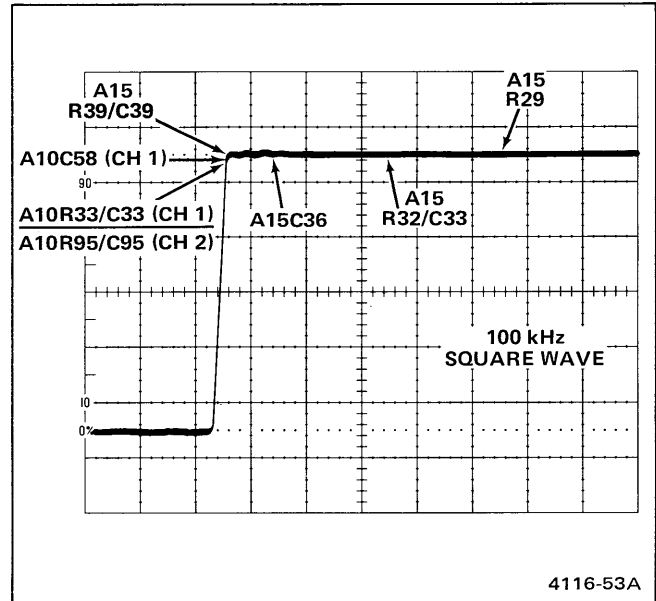

Figure 5-1. Areas affected by high-frequency compensation adjustments.
d. CHECK—Flat-top display aberrations are within  $\pm 3\%$  (0.15 division or less). See Figure 5-1 for a typical display.
e. ADJUST—Vertical Output Amplifier HF Compensation (R29, R32, and C33) for the best flat-top display (see Figure 5-1).
g. ADJUST—Vertical Output Amplifier HF Compensation (C36) for the best flat-top display (see Figure 5-1).
i. ADJUST—CH 2 Preamp HF Compensation (R95 and C95) and Vertical Output Amplifier HF Compensation (R39 and C39) for best front corner (see Figure 5-1).
k. ADJUST—CH 1 Preamp HF Compensation (R33, C33 and C58) for best front corner (see Figure 5-1) NOTE: C58 affects the same area on the waveform as C33 and R33 do. C58 is located just to the right of Q57 (see ADJUSTMENT LOCATIONS 1 and Figure 9-7).